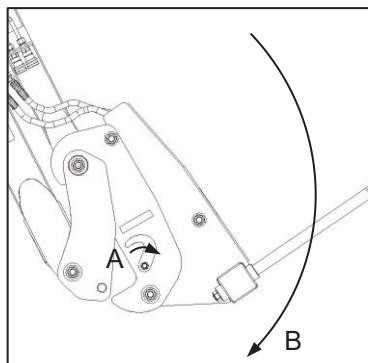

Fig. 6
- ✓ With the safety latches retracted (Fig. 6-A), lower the attachment on to the lower support bar (Fig. 6-B).
- ✓ Met die veiligheidsknippe teruggetrek (Fig. 6-A), laat die hegstuk tot op die onderste steunbalk sak (Fig. 6-B).